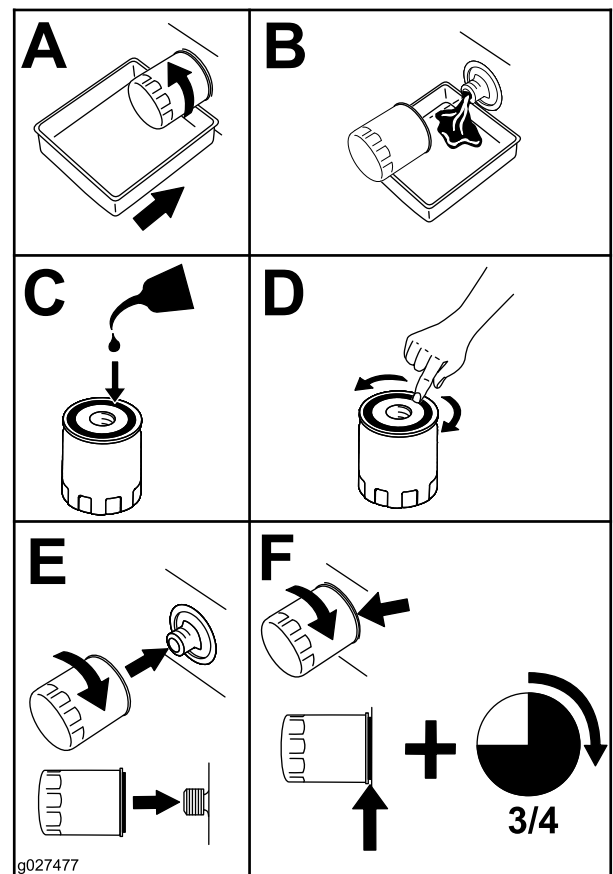

Figure 35
5. Change the engine-oil filter (Figure 35).